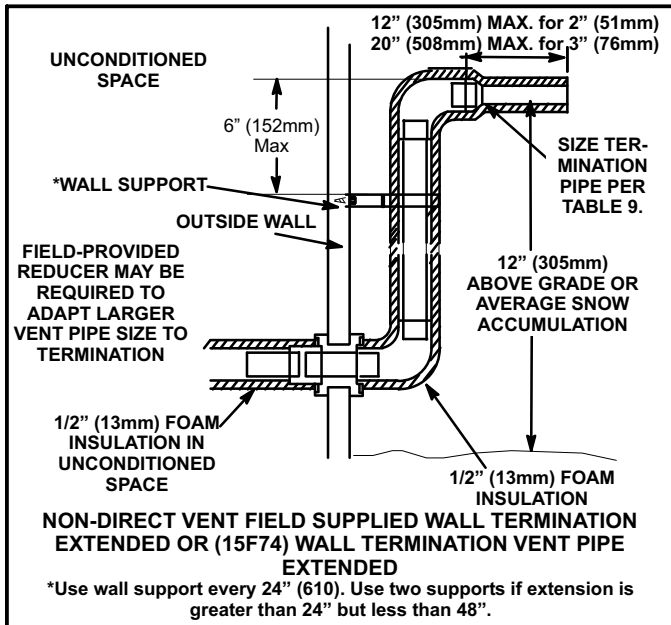

FIGURE 44
- 3 - If exhaust piping must be run up a side wall to position above snow accumulation or other obstructions, piping must be supported every 24 inches (610mm) as shown in figure 44. When exhaust piping must be run up an outside wall, any reduction in exhaust pipe size must be done after the final elbow.